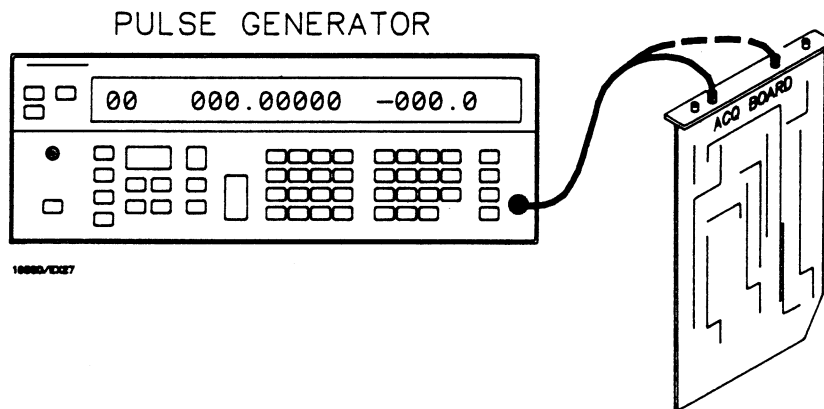

Figure 4-26. DC Matching Adjustment Equipment Hookup
- Connect equipment as shown in figure 4-26.